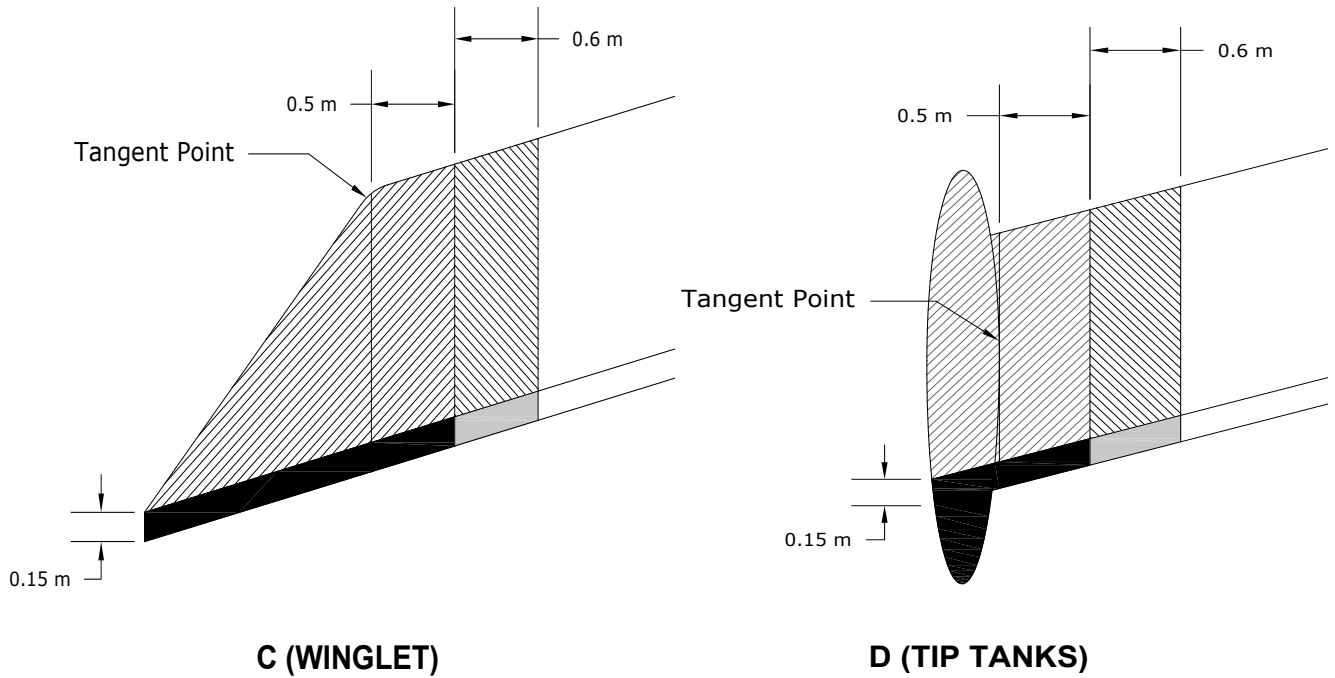
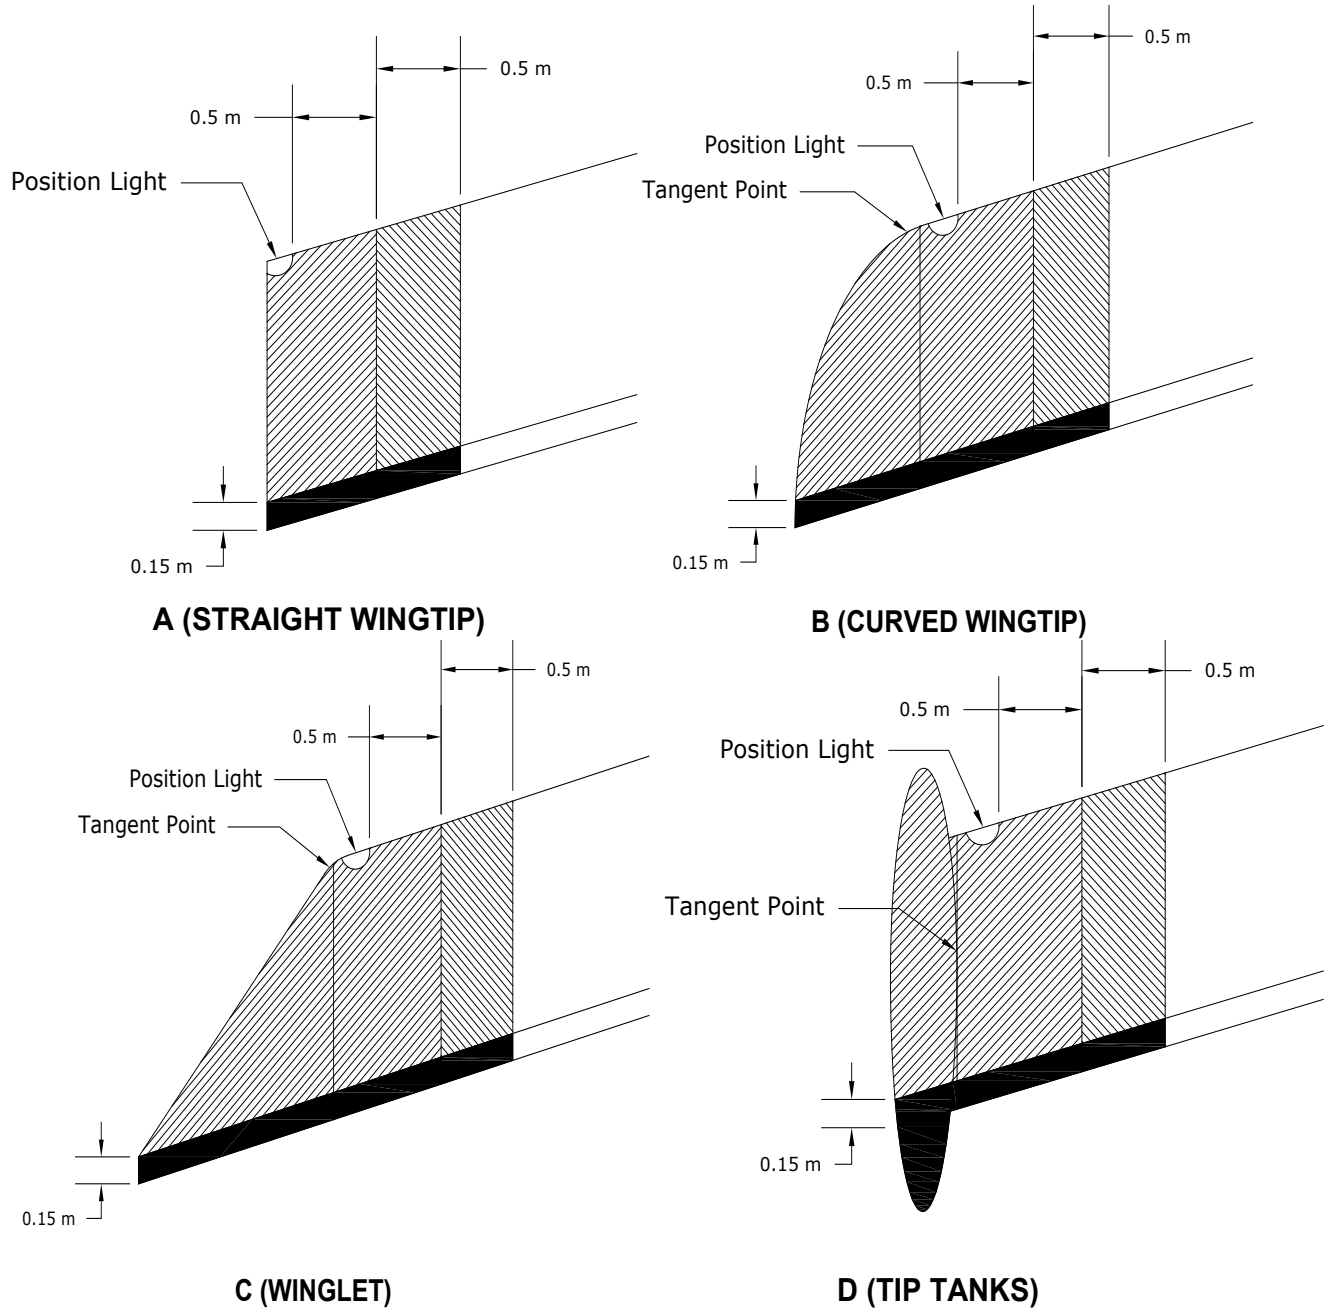
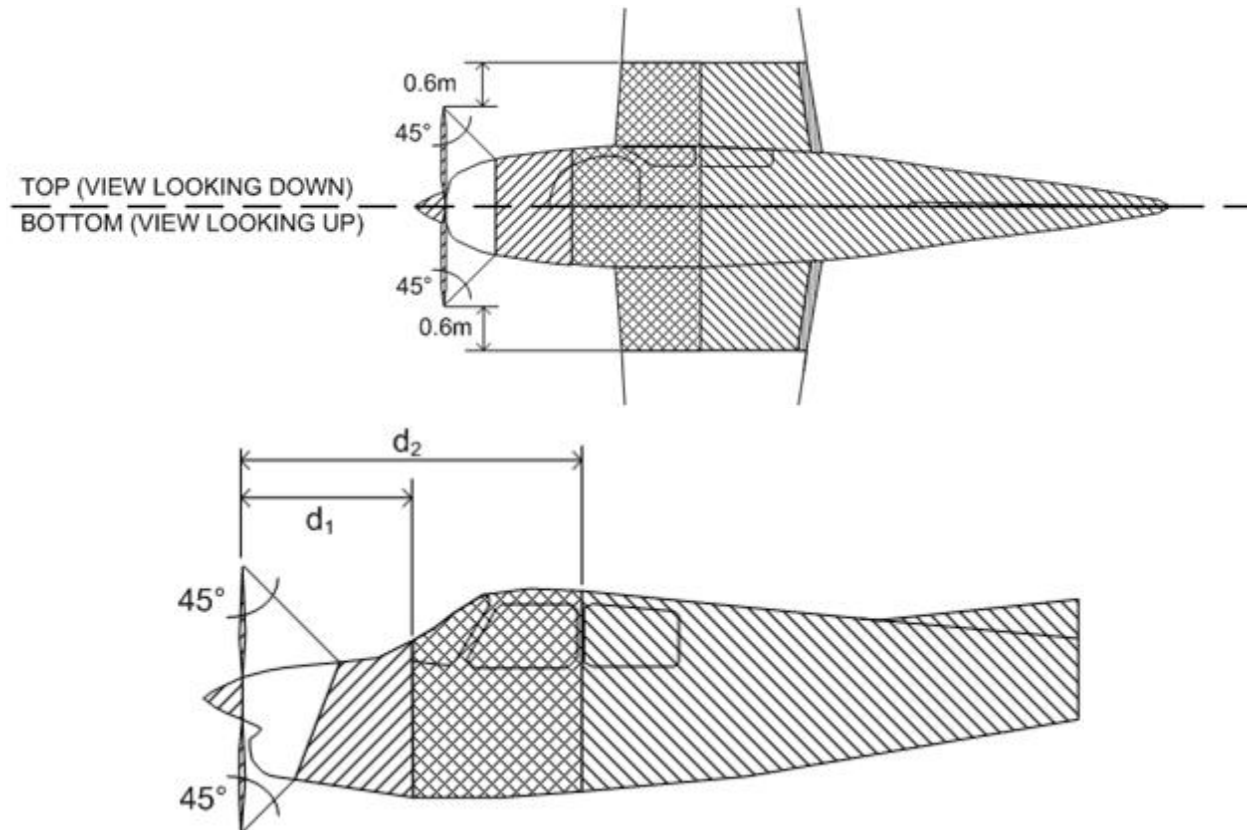
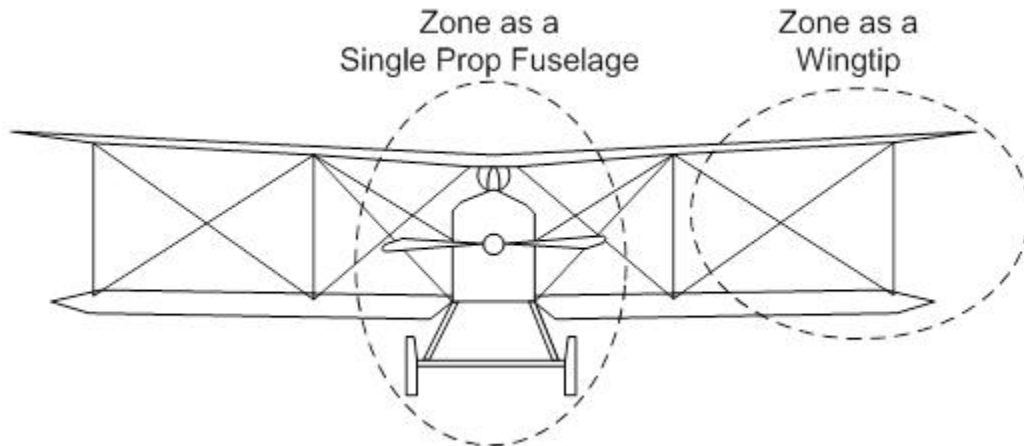

Figure 6-28 Zoning for Wingtips on Aircraft Not Limited to VFR Operation
Figure 6-29 Zoning for Wingtips on Aircraft Limited to VFR Operations
Figure 6-31 Zoning for a Single Propeller (Low- or High-Wing)
Figure 6-40 Zoning for Single-Propeller Biplane
Zoning of various types of wingtips is shown in Figure 6-28. Figure 6-28A shows zoning for straight wingtips. Figure 6-28B shows zoning for curved wingtips. The zones are similar to those of straight wingtips. The main difference is that Zone 1 extends from the outboard edge of the wing past the tangent point of the chord and 0.5 meters inboard.
- Zone 1A/1B finishes as shown in Figure 6-29 **or** 0.5 meters inboard from the inboard edge of the position light, whichever is the greater distance from the outboard edge of the wing tip, as shown in Figure 6-28
Zoning of low- or high-wing aircraft with single propellers is shown in Figure 6-31. The area of the nose
Figure 6-40 shows how biplanes can be classified using the figures from above. The top and bottom of both wings will be zoned using Figure 6-29, while the fuselage and the mid-sections of the wing can be zoned using Figure 6-31.